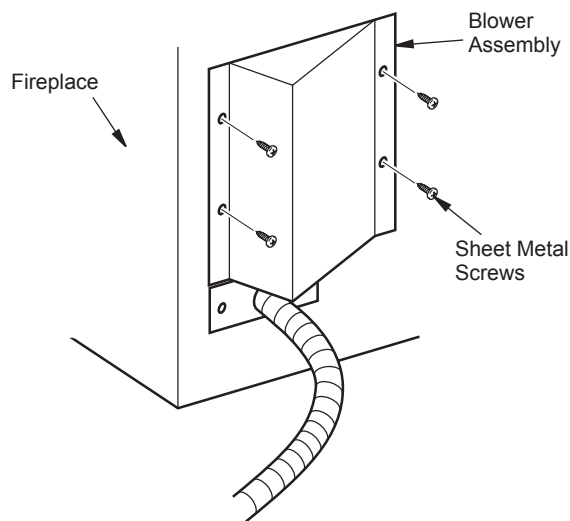
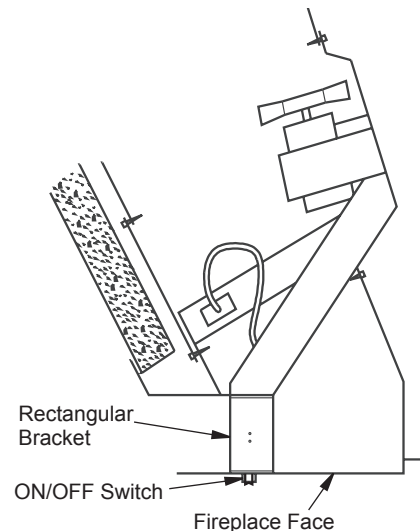

Figure 3
Figure 4
4. Take four sheet metal screws provided and secure blower assembly to fireplace through holes (see Figure 3). Blower should now be in place and look similar to Figure 4.